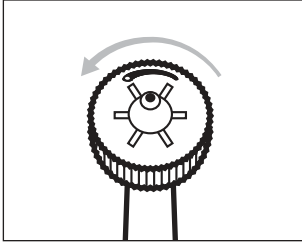

Fig. 4
- ◆ Turn the nozzle control ❶ anti-clockwise with your fingers to obtain a single jet for targeted removal of food remnants from hard-to-reach areas (see Fig. 4 and 5).